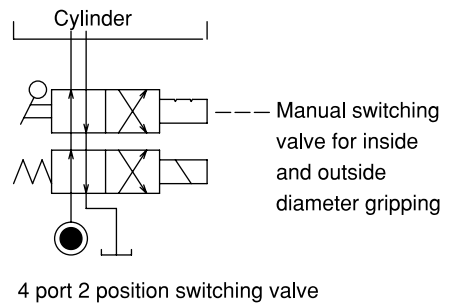

Fig. 18
- Consider the hydraulic circuit design so that the operation is easy and no mistakes in operation occur. Attempt failsafe for the circuit so as not to cause any accidents even in the case of blackout. (Fig. 18)